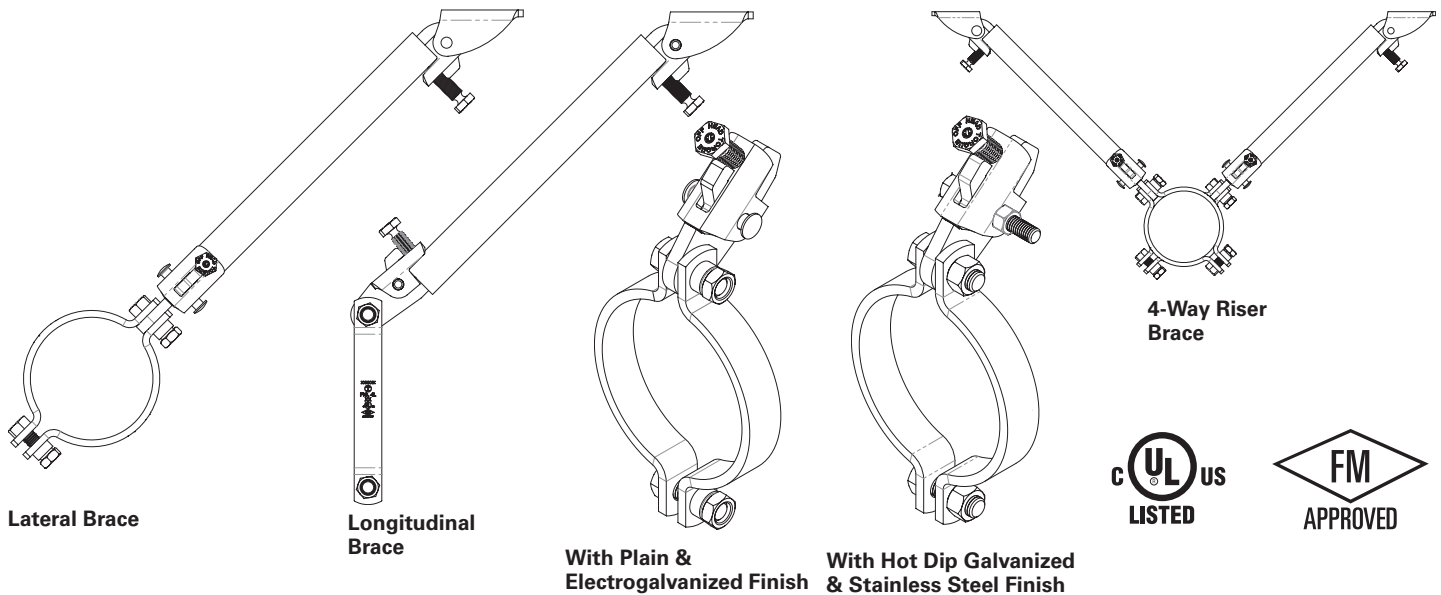

# Fig. 4L TOLCO sway brace attachment (metric)
**Function:** For bracing pipe against sway and seismic disturbances. Fig. 4L is the “braced pipe” attachment component of a longitudinal or lateral sway brace assembly. It is intended to be combined with a 25mm–50mm NPS “bracing pipe” and a TOLCO structural attachment component to form a complete bracing assembly. Metric specific parts have been developed for installation on 65mm and 125mm KSD and DIN pipe and 150mm and 200mm KSD pipe. For other sizes, the standard parts are able to be installed on both imperial and KSD and DIN pipe. Sway brace assemblies are intended to be installed in accordance with NFPA 13 and the manufacturer’s installation instructions.
\*\* Stainless steel (Fig. 4LS) is only offered for 100mm KSD and DIN pipe
**To install:** Place the Fig. 4L over the pipe to be braced and tighten down the break-off nuts (note: apply between 50-60 lb. ft. of torque). Tighten the jaw component side nut first until the hex head portion breaks off to verify correct installation torque and then repeat for other side. Next, place the Fig. 4L onto the “bracing pipe” so that there is no more than a 3mm gap between the end of the bracing pipe and the back of the jaw. Tighten break-off head bolt until the hex head breaks off to verify correct installation torque (note: apply between 36 - 40 lb. of torque on PLN or EG or 45 - 50 lb. ft. of torque on HDG or SS Fig. 4L). Pivot jaw for correct angle and attach to structure using TOLCO brand transitional attachment and structural attachment.
\*\*\*\* Note that the Fig. 4L-100mm DIN and KSD and 150mm DIN are only UL listed for use with 25 thru 40mm brace pipes.